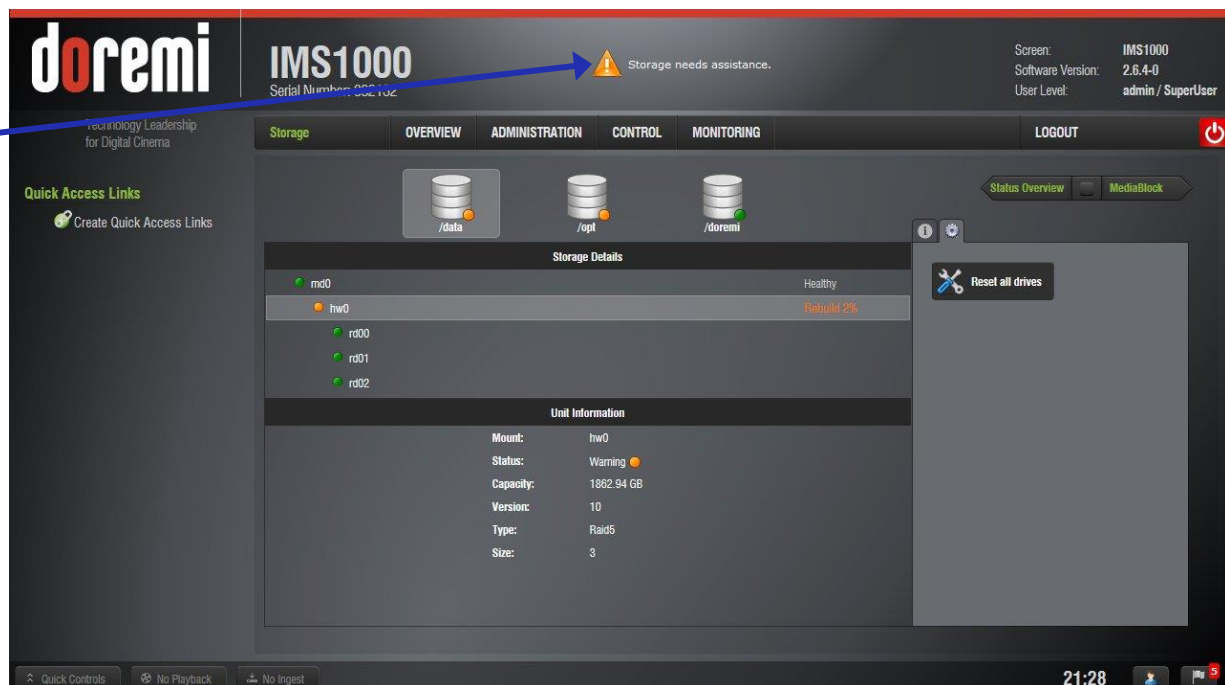

Figure 273: Storage Needs Assistance
2. Storage needs assistance (Figure 273).